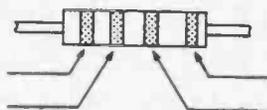

Fig. 2
- (b) Fig. 2 shows the coloured bands on the 1.2 kΩ resistor. If the resistor has a tolerance of 10%, name the colours of the bands on Fig. 2. [4]